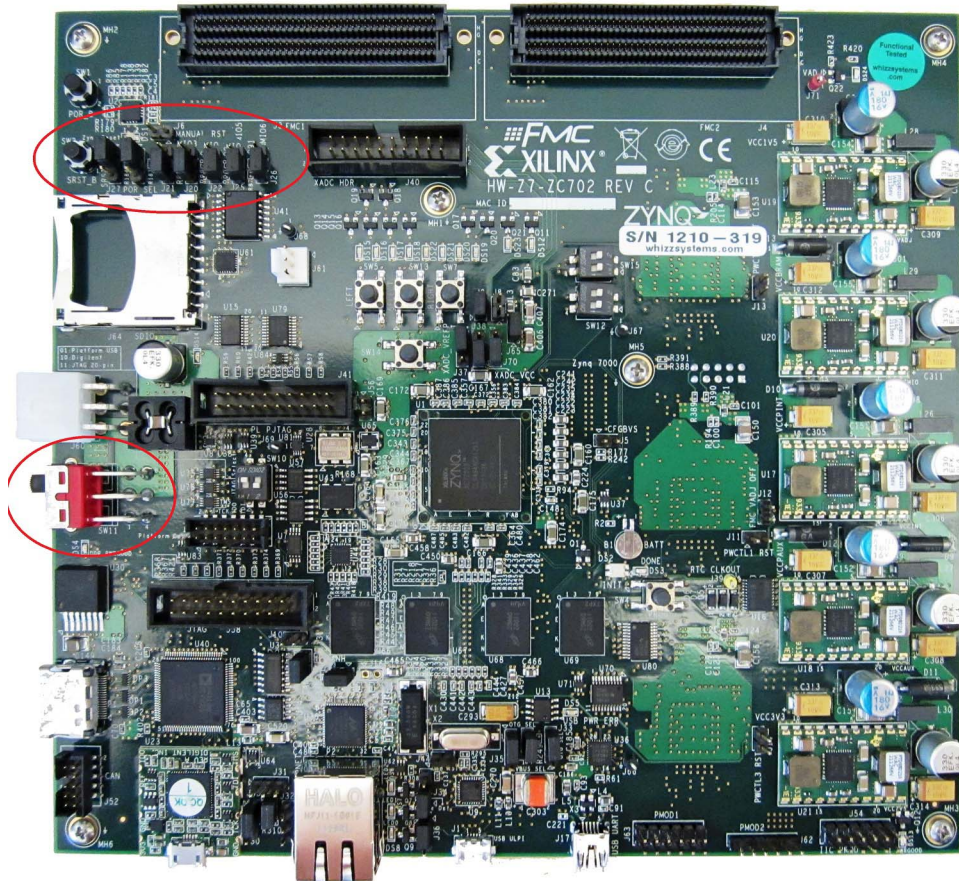

Figure 2-6: ZC702 Board Power Switch
4. Power on the ZC702 board using the switch indicated in Figure 2-6.